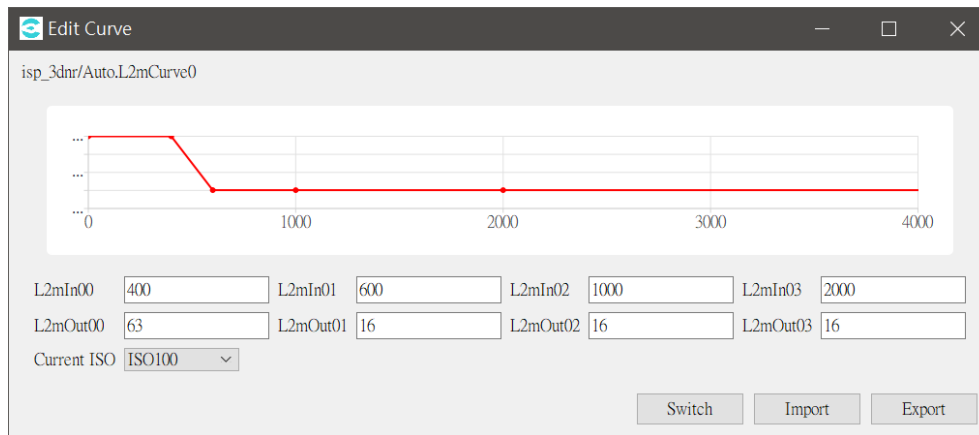

Fig. 5.37: Luminance to motion gain noise reduction model adaptation
**Tuning principle:** It is recommended to set **TuningMode** to 1 to open the motion map screen. Take the first stage as an example, first set the **L2mOut00** corresponding to **L2mIn00** to the maximum value of 63, and the gain of other stages **L2mOut01** ~ **L2mOut03** to the minimum value of 0. You will find that the motion level of **L2mIn00** area is much higher than other gray levels. If the motion area does not match the expectation, you can adjust **L2mIn00** to further define the appropriate gray range for the first stage motion. The other three gray levels are configured in the same way as the first level, as shown in Fig. 5.37 below. In order to make it easier for the dark area to detect motion, the motion gain **L2mOut00** of the first level is set to the maximum value of 63, while the other gray levels are consistent.